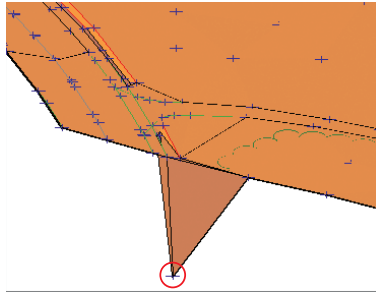

FIGURE 4.14 3-D view of incorrect surface point
5. When prompted to select a point, click the point in the 3-D view that is located well below the other points (see Figure 4.14). Press **Enter**.